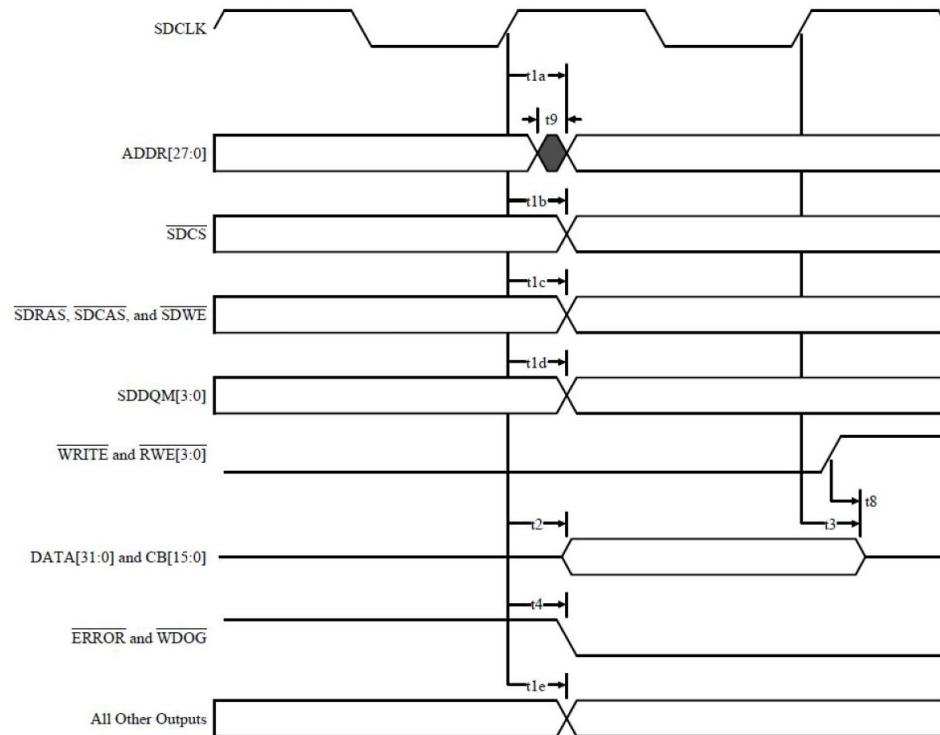

Figure 4:2: Memory Interface, ERROR and WDOG Output Timing Diagram
1. All outputs are measured using the load conditions shown in Figure 4:14